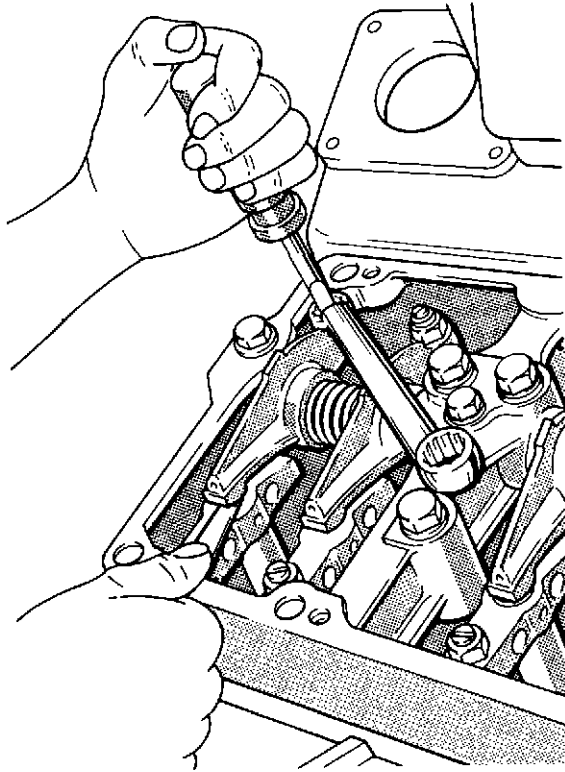

Fig. 3 Setting tappet clearances
- 3 Slacken back the tappet adjusting screws and, using the appropriate feeler gauge, set the 'A1' inlet valve tappet clearance to 0,2 mm (0.008 inch), as shown in figure 3. Tighten the adjusting screw locknut to a torque loading of 40 Nm (30 lbf.ft.).